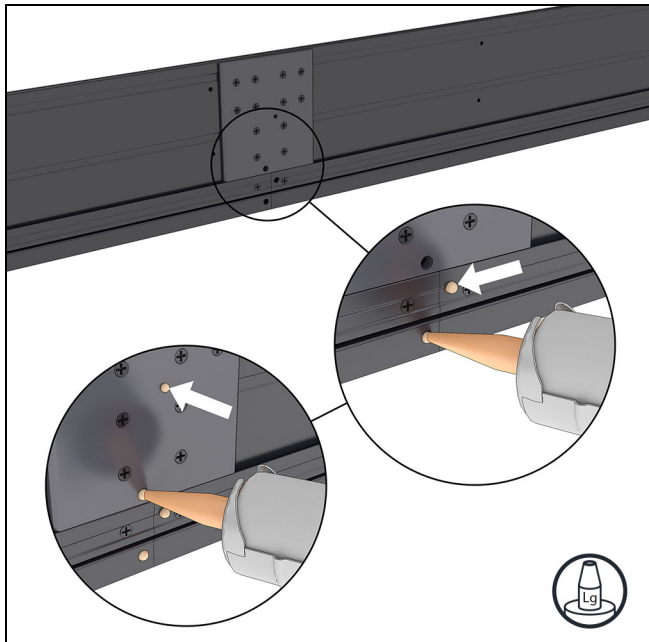

Figure 27
1. Spliced Head Jambs: Inject the head jamb splice in the two places noted in Figure 27. Starting at the exterior, inject sealant using the large nozzle until you see squeeze out in the corresponding port noted by white arrows.